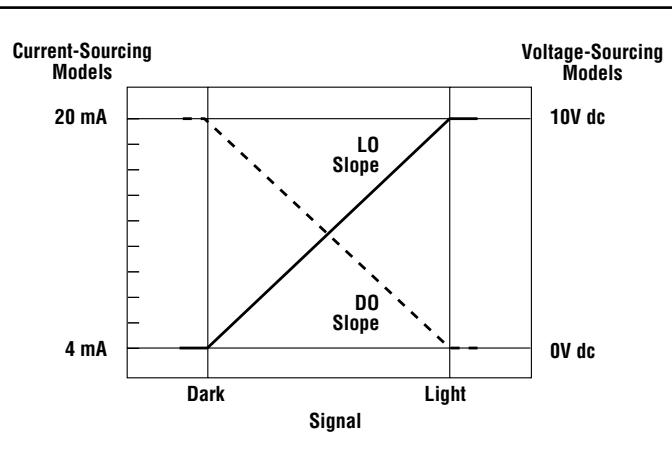

Figure 2. Analog output as a function of target position – two setpoints (static or dynamic)
**Teaching two setpoints (static or dynamic):** The sensor sets the first taught condition to the highest output level (either 20 mA or 10V), and the second taught condition to the lowest level (either 4 mA or 0V), and scales between these points. If the first condition taught has more returned light, the sensor will be in Light Operate mode (LO). If the first taught condition is darker, the sensor will be in Dark Operate mode (DO). To change the slope of the analog output (refer to Figure 2), toggle LO/DO in Setup (page 9).